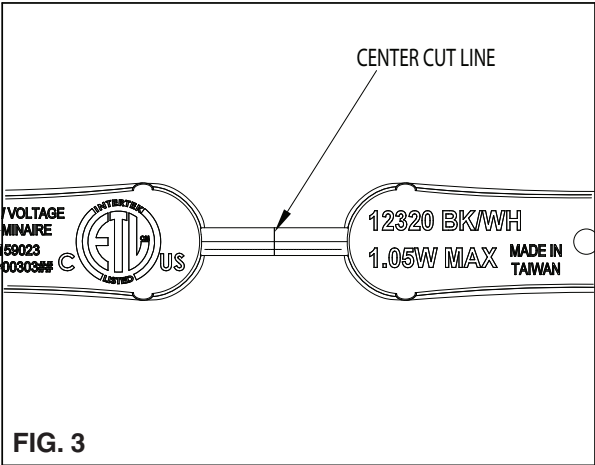

FIG. 3
1. Cut the wire precisely halfway between two pods of the LED Linear. The LED Linear connectors require 3/8" of wire to make a secure connection; an exact cut in the center of the wire is critical. (See Figure 3)